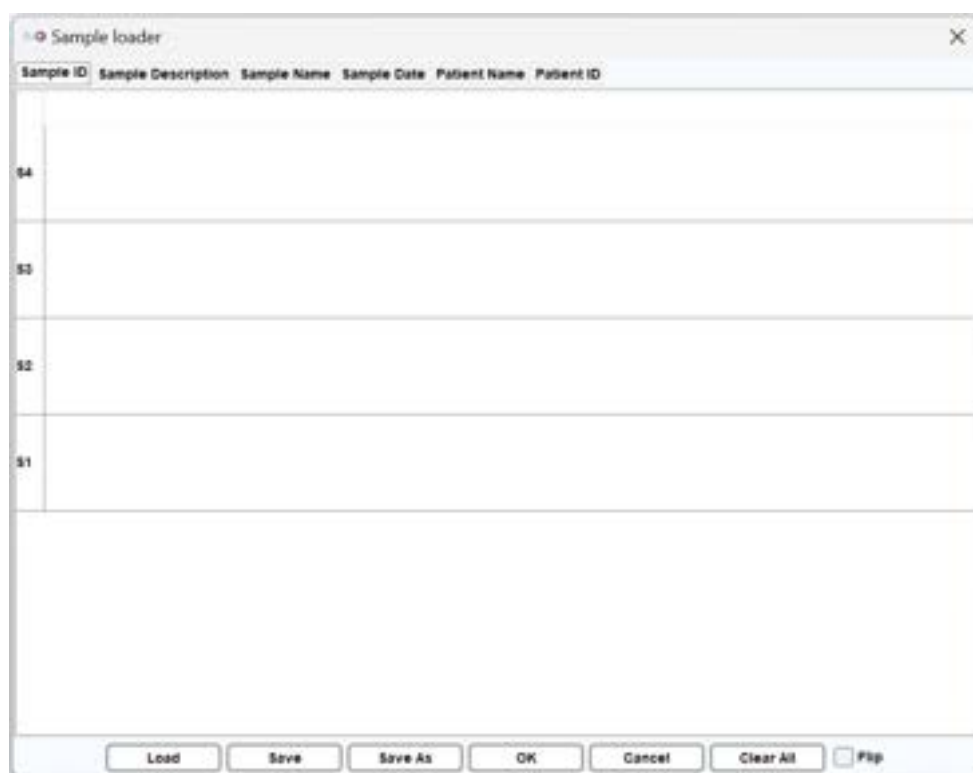

Figure 20 Sample Loader Window
Notes for samples can be edited on the Sample Loader window (Figure 20). After clicking on **Edit**, the Sample Loader window will appear on the screen. Use the **Load** button to enter multiple sample descriptions, the **Clear All** button to delete all sample information, and the **Save** button to save the edited sample information. After entering the required information such as time and serial number, click **OK** to start the process.
***Note:** The information of the samples in the excel sheet must follow the sequence shown in Figure 20. An example file can be found in the installation directory. The default workspace is C:\Users\<username>\Q-Analyzer\Sample.